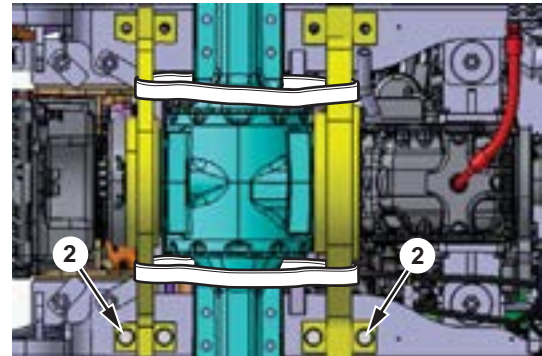

Figure 22 Bottom of the Rear Frame
21. Remove bolts and washers (2, Figure 22) (4 ea) from the axle support.